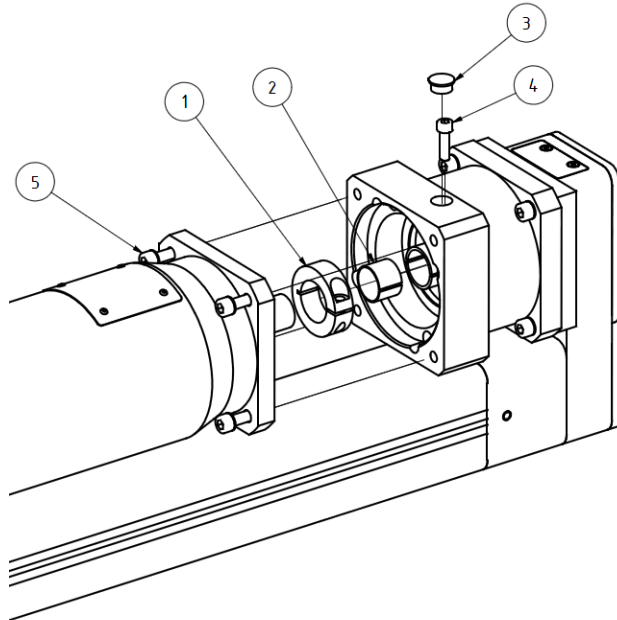
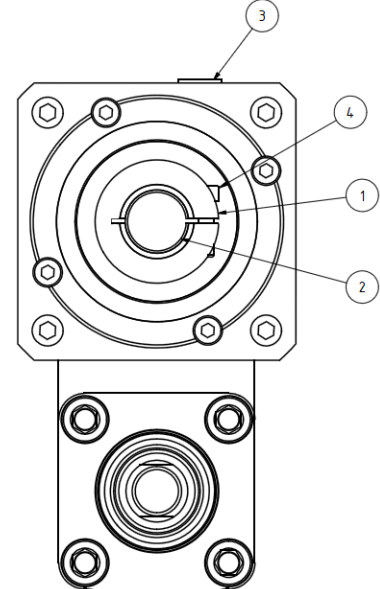

Figure 24: Disassembly of an Ex-Motors
Figure 25: Flange view: Disassembly of a EX motor
- ◆ Remove cover plate (please refer to Figure 24 Pos. 3) and loosen clamp screws (please refer to Figure 24 Pos. 4)
- ◆ Loosen motor fixing screws (please refer to Figure 24 Pos. 5)
- ◆ Clean contact surfaces of motor, motor shaft, motor flange, hollow shaft bore, clamping ring (please refer to Figure 24 Pos. 1)) and spacer sleeve (please refer to Figure 24 Pos. 2).
- ◆ Push the spacer sleeve (please refer to Figure 24 Pos. 2) in the hollow shaft bore up to its stop.
- ◆ Put the clamping ring (please refer to Figure 24 Pos. 1) onto the hollow shaft and shift it up to the stop.
- ◆ Align the slot of the clamping ring (please refer to Figure 24 Pos. 1) and the spacer sleeve (please refer to Figure 25 Pos. 2) to the slot of the hollow shaft.
- ◆ Align the hollow shaft so that the clamping screw (please refer to Figure 25 Pos. 4) stands over the opening of the flange. 4).
- ◆ Insert and tighten motor fixing screws slightly (please refer to Figure 24 Pos. 5).
- ◆ Insert and tighten clamping screws slightly (please refer to Figure 24 Pos. 4).
- ◆ Tighten clamping screw (please refer to Figure 24 Pos. 4) with the respective tightening torque.
- ◆ Close the opening in the motor flange with the lid (please refer to Figure 24 Pos. 3)